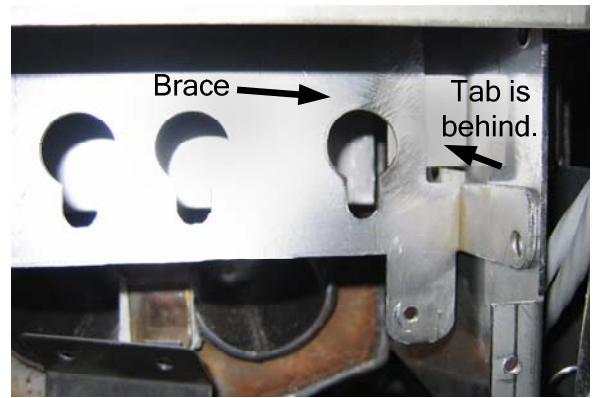

Figure 11: Rotate the brace into the frypot.
- F. Rotate the top of the brace toward the frypot, bringing the side with the keyholes around to face you. Ensure that the front edge of the brace is in front of the upper back tab and behind the lower front tab. (Figure 11)